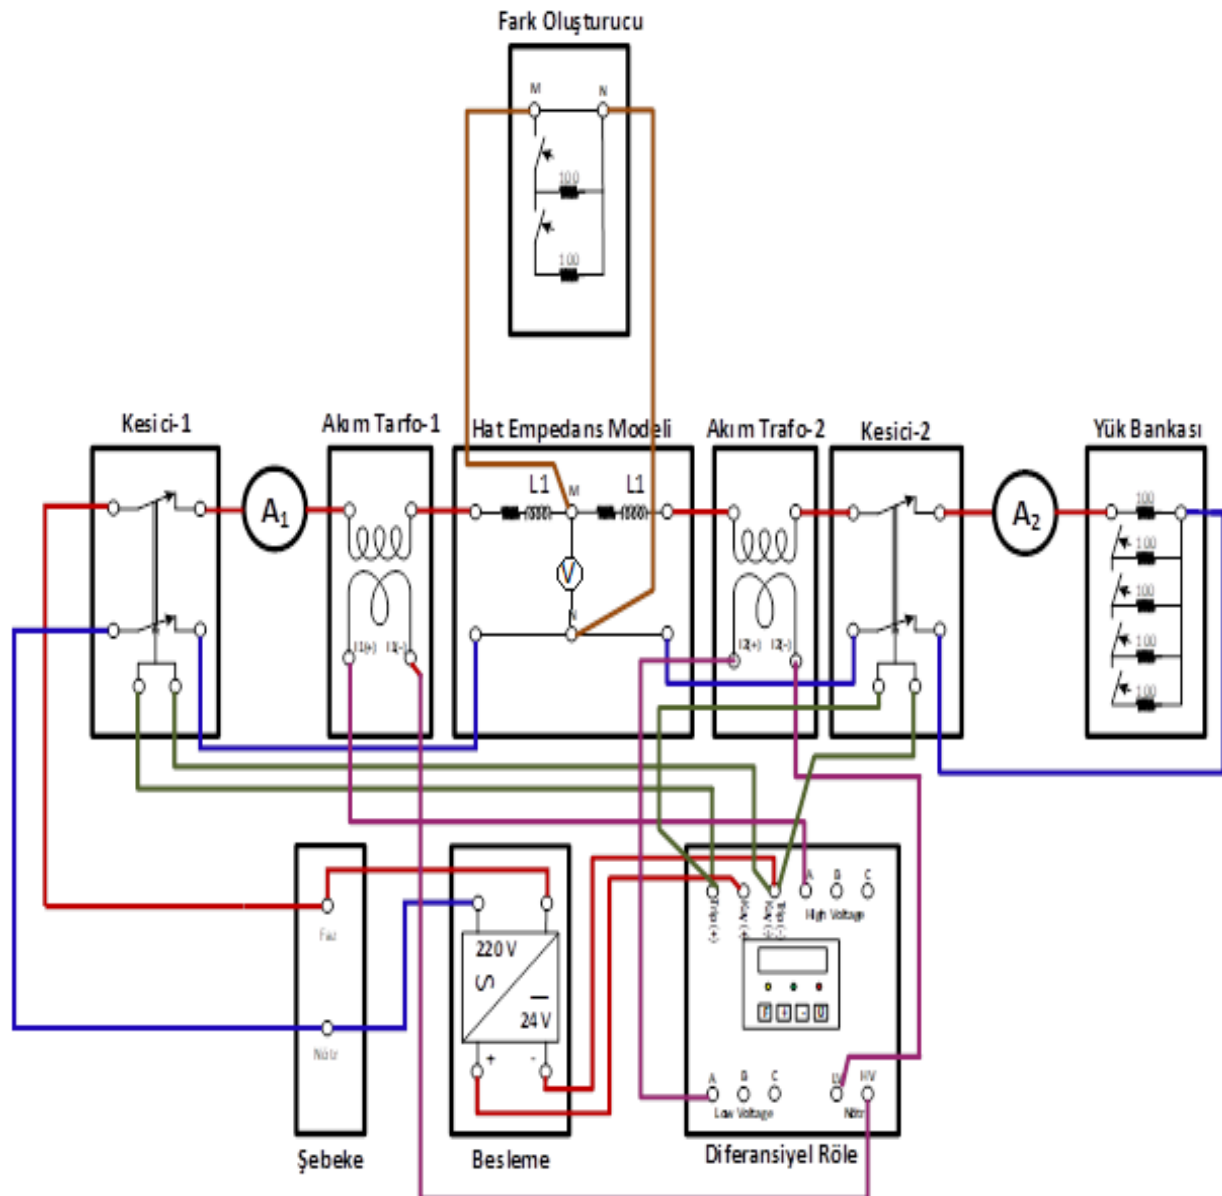

Figure 4: Test connection setup
- Make the connections in Figure 4.